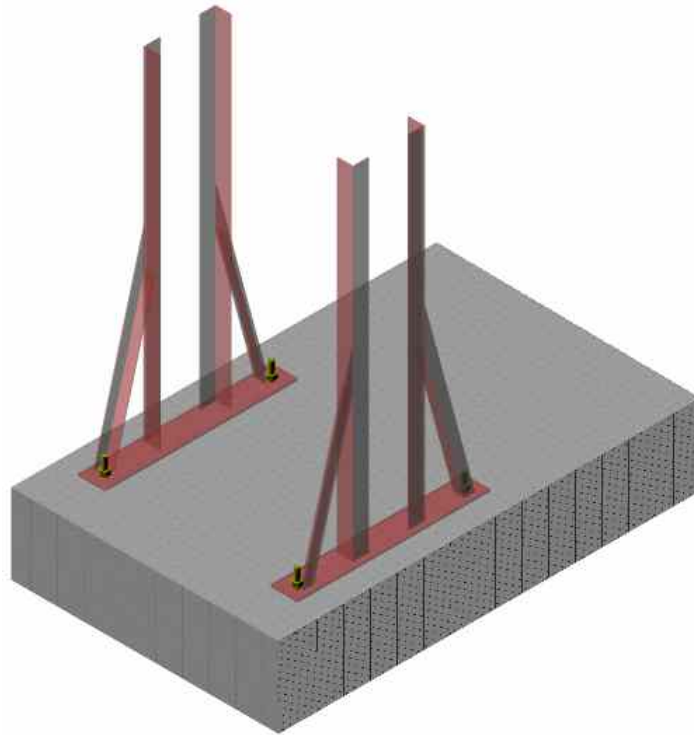

Fig. 11 Arrangement without CT structure
- Fix the Lower Leg Assly as shown in Fig. 11